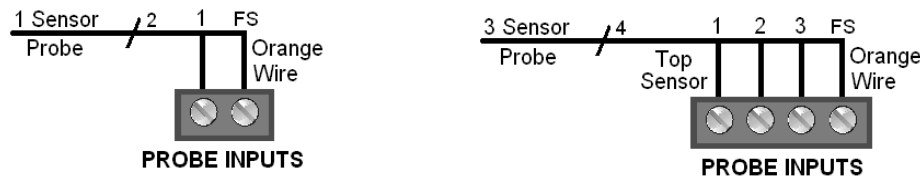

Figure 6 - Single and Three Sensor Probe Connections
Connect as shown in *Figure 6* below. If the Fail Safe (FS) feature is not required or not present, leave the orange wire disconnected and trim or cable tie out of harms way.